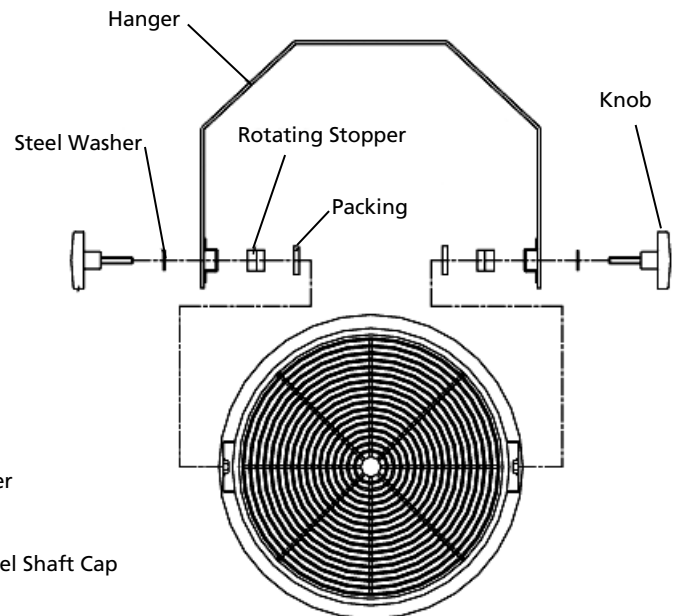

Figure 3b - Hanger Assembly Features
Install side rotating stop over bolts and into curved slots as shown in Figure 3b, on each side of the heater.
Assemble hanger to heater as per Figure 3b. This step requires no tools.
- The rotating stoppers shown in Figure 3b **MUST** be used.